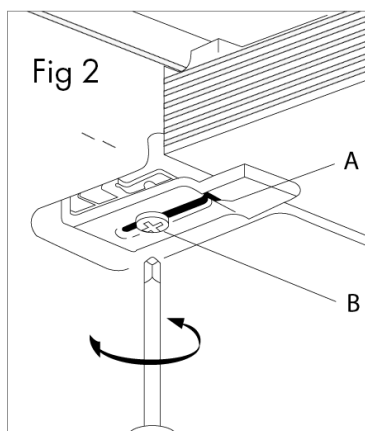

Fig 2
With a screwdriver assemble the brackets (A) to the hotplate bottom by means of the screws (B) (See Fig. 2). Slide the hooks into position and secure them with the screws. Trim the part of the sealing strips that extend beyond the dropin base.